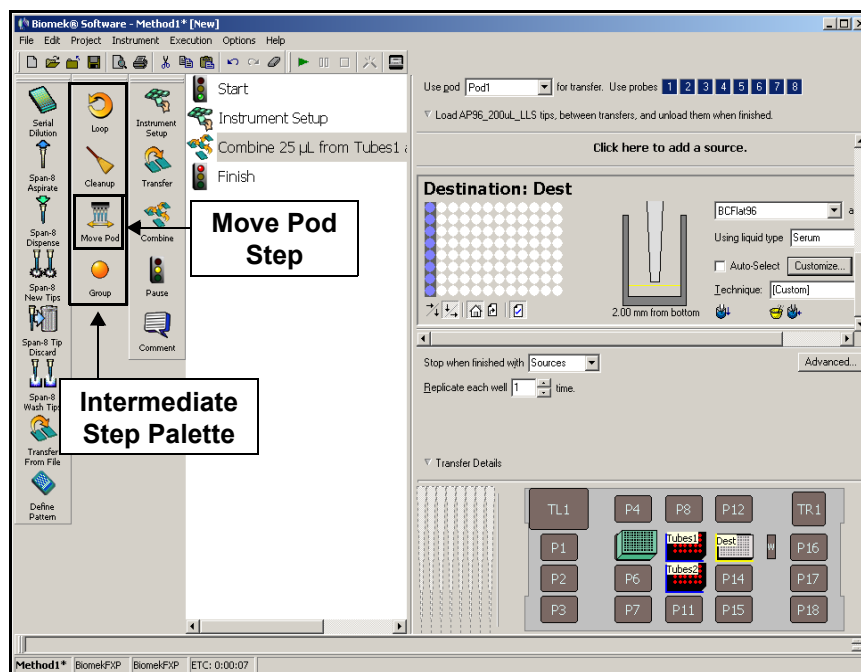

Figure 6-7. Intermediate step palette displayed
2. Choose **Intermediate**. The Intermediate step palette appears on the main editor (Figure 6-7).
1. Insert the **Move Pod** step in the Method View after the **Combine** step (Figure 6-7).